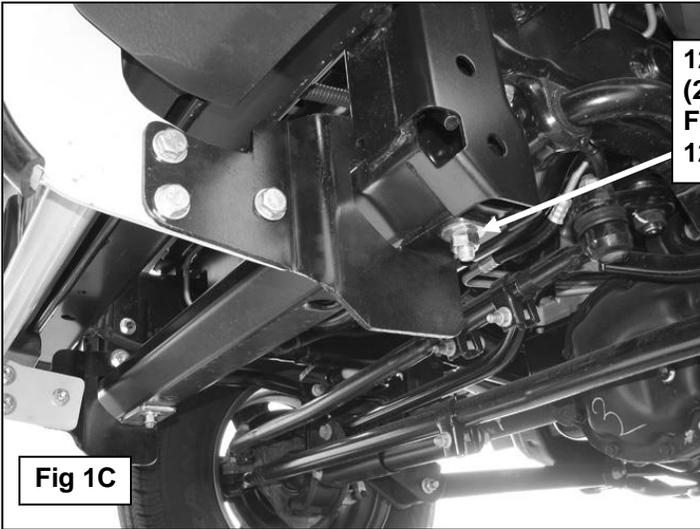

Fig 1C
4. Select the passenger side Frame Mounting Bracket. Bolt the Frame Mounting Bracket to the bottom of the cross-member with (1) 12mm x 30mm Hex Bolt, (2) 12mm Flat Washers and (1) 12mm Nylon Lock Nut. **NOTE: 07-15 models** will use the outer mounting location, **(Figure 1A)**, **2010 models** will use the inner mounting location, **(Figure 1B)**. Insert (1) 12mm x 30mm Hex Bolt, (2) 12mm Flat Washers and (1) 12mm Nylon Lock Nut through the upper tab on the side of the Mounting Bracket upright and tighten hardware at this time, **(Figure 2)**. Repeat this step to install the driver side Frame Bracket, **(Figure 1C)**.